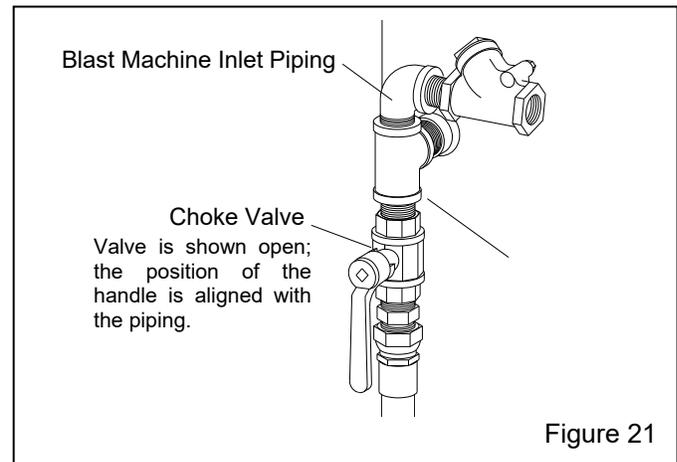

Figure 21
### **4.5 Operation and Function of the Choke Valve Figure 21**
**4.5.1** Always fully open the choke valve while blasting; open is when the handle is vertical and aligned with the piping, as shown in Figure 21.